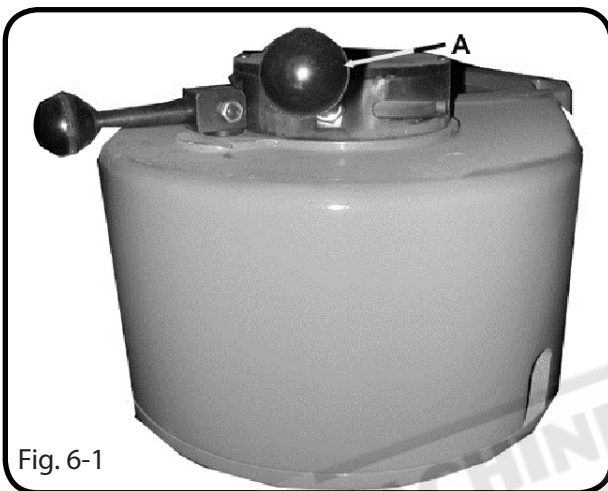
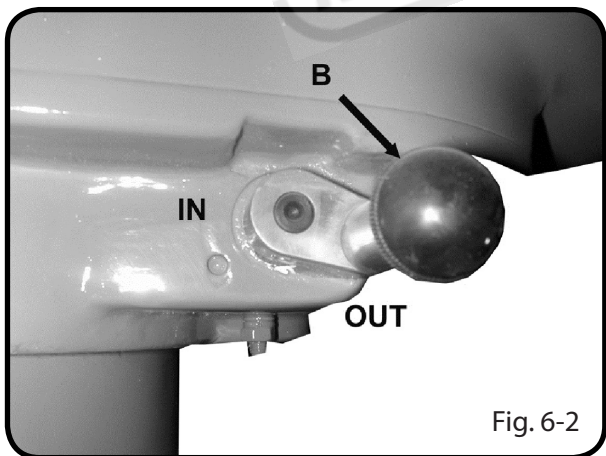

Fig. 6-1
Fig. 6-2
**Hi Speed:** move the handle (Fig 6-1 , A,) on the front of the top of the head. Move the handle B (Fig 6-2 B) to the IN position. Rotate the spindle nose by hand until the gears mesh with the clutch. Move the handle B to the OUT position( Fig 6-2,B)